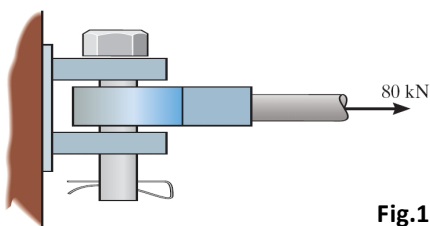

Fig.1
1-4. The pin in Fig. 1 is made of a material having a failure shear stress of $\tau_{fail}=100\text{MPa}$. Determine the minimum required diameter of the pin to the nearest mm. Apply a factor of safety $F.S.=2.5$ against shear failure. (計算-safety design)
1. The 100-kg block *A* show in Fig.1. is released from rest. If the masses of the pulleys and the cord are neglected, determine the speed of the 20-kg block *B* in 2 s.